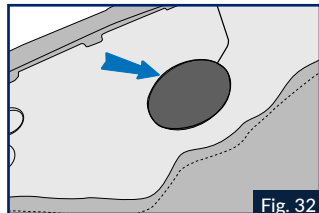
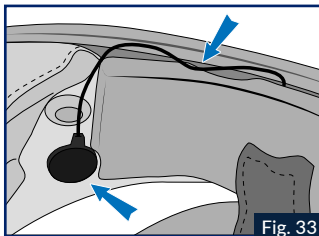

Fig. 32
Fig. 33
-ding (cheek pads and liner) according to the description of disassembly of the textile on page 10. Then remove the 2 side covers on either side of the carburettor gasket. (Fig. 32).
2- Insert the left and right speakers of the **SENA FOR SHARK (Bluetooth or Mesh)** system into the earphone housings, passing their cable under the cover covering the polystyrene cheeks (use the vertical slot on the cheek cover for this purpose) (Fig 32). In order to allow the speakers to be held properly, do not forget to affix the small Velcro pieces provided in the box of your **SENA FOR SHARK (Bluetooth or Mesh)** system (Fig 33)
4- Place the microphone and attach it using the Velcro part provided, and insert the microphone shaft into the cover of the right polystyrene cheek, using the groove provided. Connect the extension cable supplied with the **SENA FOR SHARK (Bluetooth or Mesh)** system (Fig. 33).